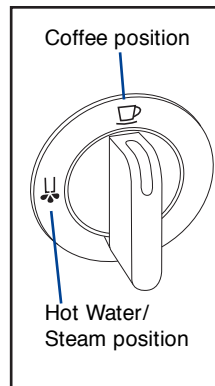

Fig. 5
8. Selector Switch for coffee, water, steam (Fig. 5)